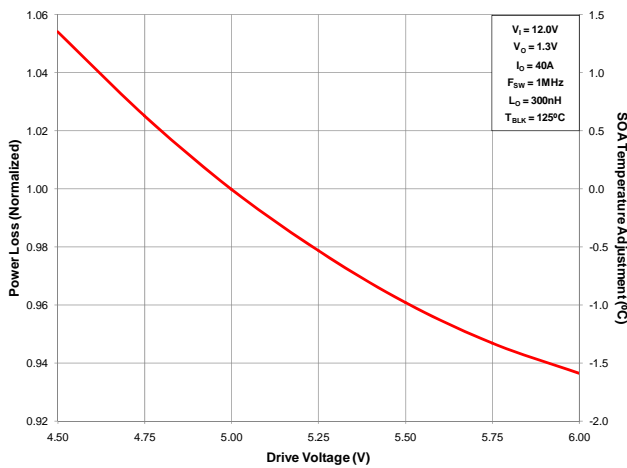

Figure 5 Normalized Power Loss versus Drive Voltage
- (Figure 5) Normalized power loss for drive voltage (V_{DD}) \approx 0.96
- (Figure 5) SOA temperature adjustment for drive voltage (V_{DD}) $\approx -0.8^{\circ}\text{C}$